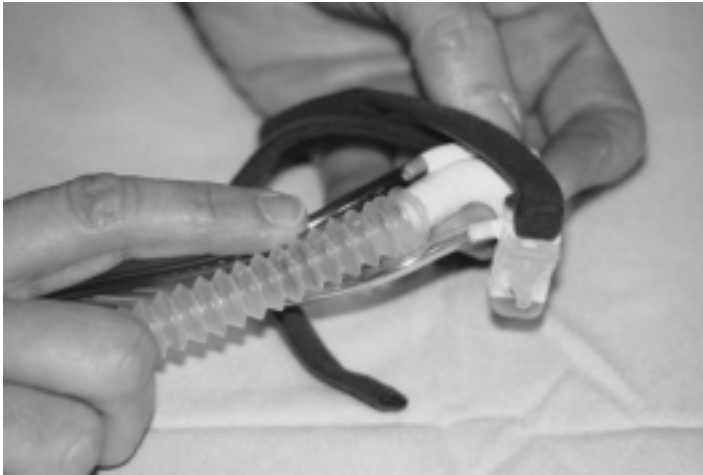

Figure 3-3. Expiratory limb
2. Stretch the compressed expiratory limb until it is fully extended (Figure 3-3).